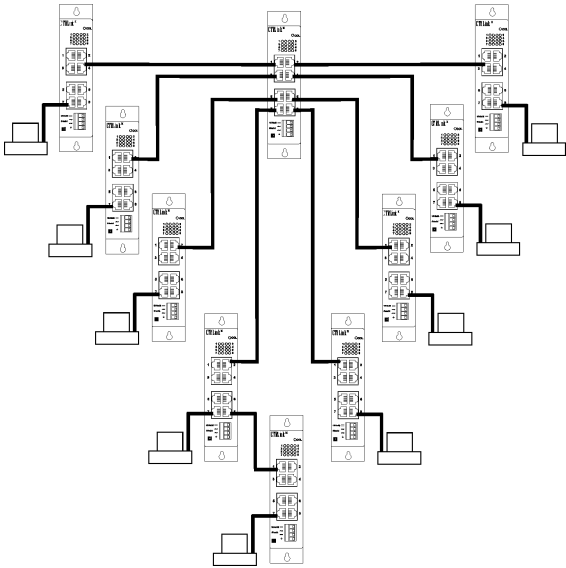

Figure 10 — Distributed-Star Topology
A common network design decision is whether to optimize the number of nodes or the network diameter. The maximum number of nodes (62) is achieved with twisted-pair media and uses ten EI8-10T units configured in a distributed-star topology (Figure 10). The maximum network diameter (2200 m) is attainable using fiber links where no data path has more than four fiber hubs—regardless of topology—and twisted-pair is used to connect each end device.